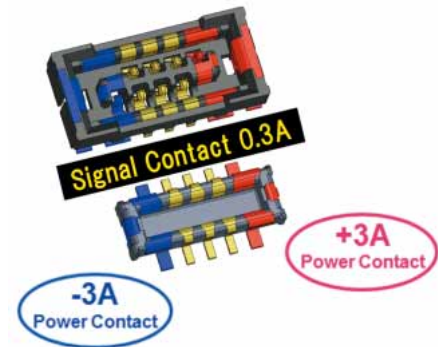

Fig.2
- 2. Equipped with power contacts capable of handling up to 3A current.** (Fig.2)